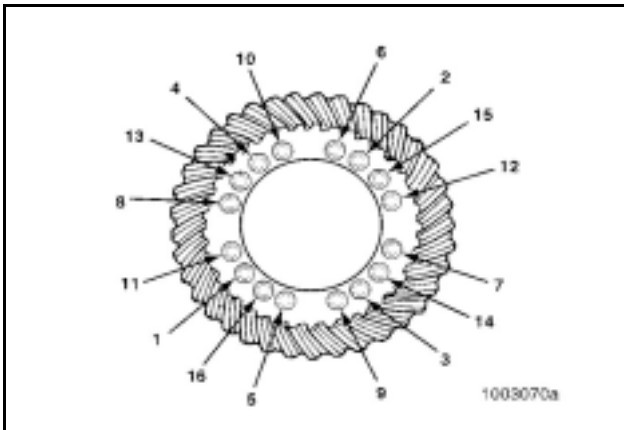

Figure 92
- a. Install four capscrews and washers or bolts*, nuts* and washers* into the case halves. The distance between the fasteners **must** be equal. Tighten the fasteners to the correct torque value in a progressive criss-cross pattern opposite each other. Refer to **Figure 92** and **Table J**.